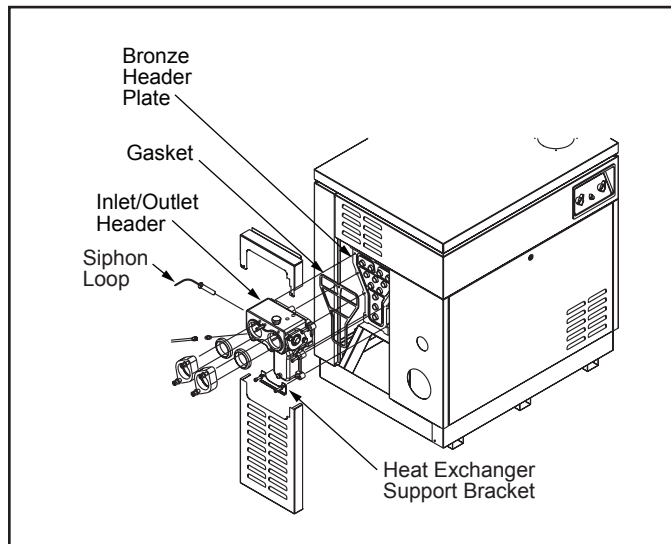

Figure 4. Remove Inlet/Outlet Header
11. Remove the eight 1/4-20 x 1-1/4" bolts that hold the inlet/outlet header in place (see Fig. 4).